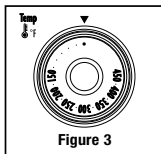

Figure 3
3. **Temperature Control Knob** – Adjust the dial thermostat to the desired temperature. (See Figure 3)